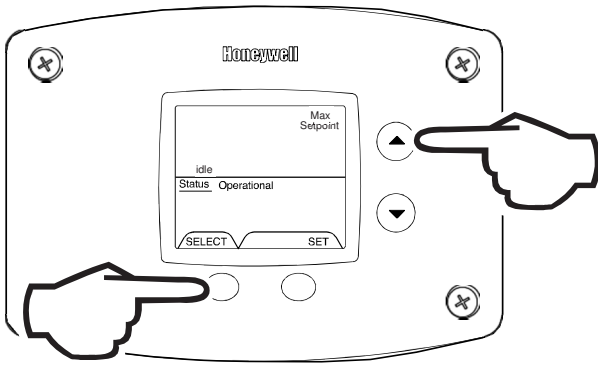

Fig. 44
5. 30 Seconds after the last button press, the Water Heater Display will go back to 'User Mode'. It will read 'Max Setpoint' without showing a temperature value if the temperature setpoint is at the maximum setting. The Water Heater Display can be set back to the 'User Mode' immediately by pressing both the 'Temperature Up' and 'Select' buttons together for 3 seconds (Fig. 44).